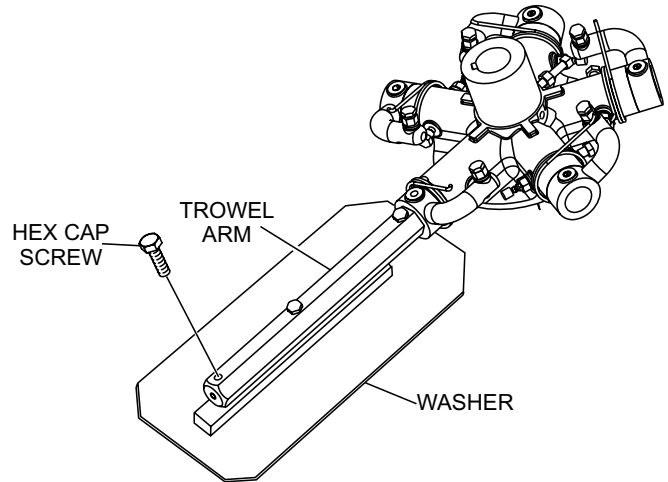

Figure 33. Blade Removal
3. Remove the bolts and lock washers (Figure 33) that secure the blade to the trowel arm, then remove the blade.